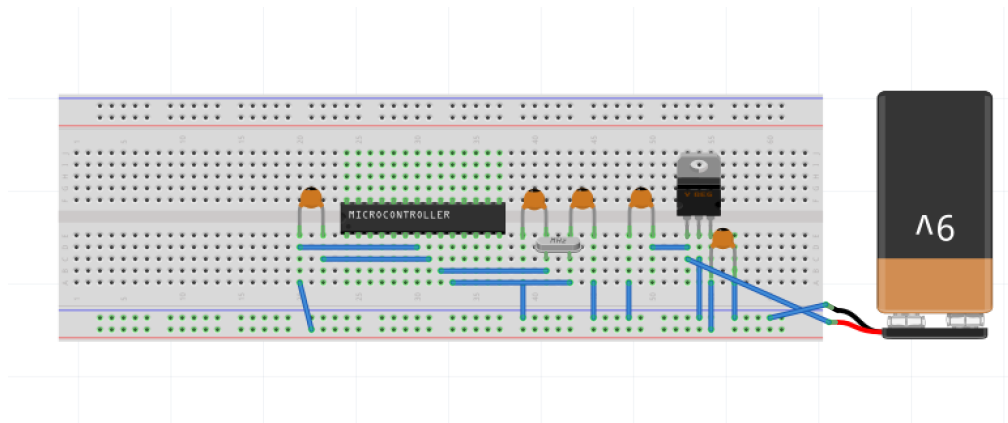

Figure 8: Example Breadboard Layout
*Connect all GND pins to the ground rail and all VCC pins to power rail.* Use a multimeter to test the continuity between power and ground rail to make sure it's not shorted. Check the board connection with the Figure 8.